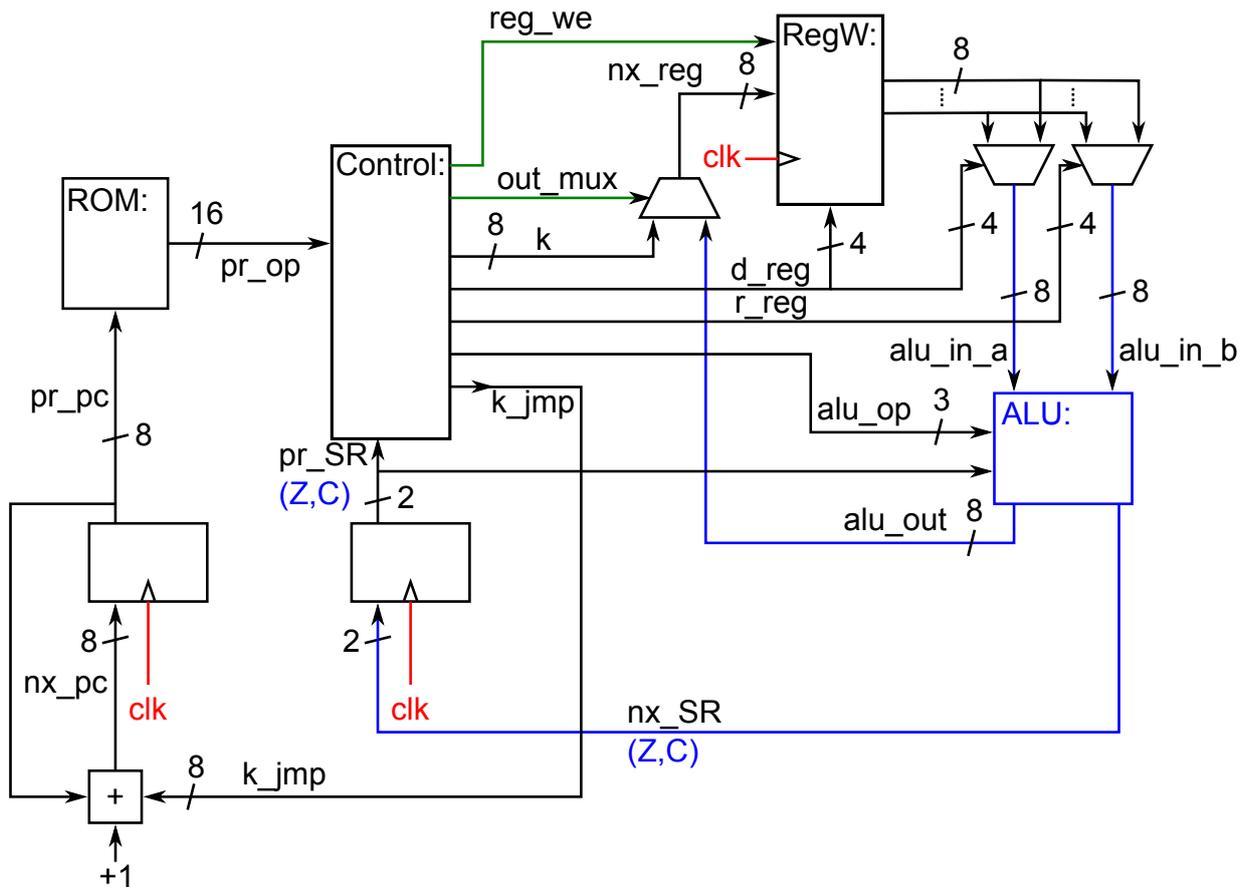

Figure 3: Mini AVR architecture with relative jumps.
The Mini AVR architecture of *Figure 3* has in its ROM the following code:
b) Describe the value of all the significant signals in *Figure 3* just before the rising edge of the seventh clock of the previous waveform.
³This general reset is not shown in *Figure 3*.